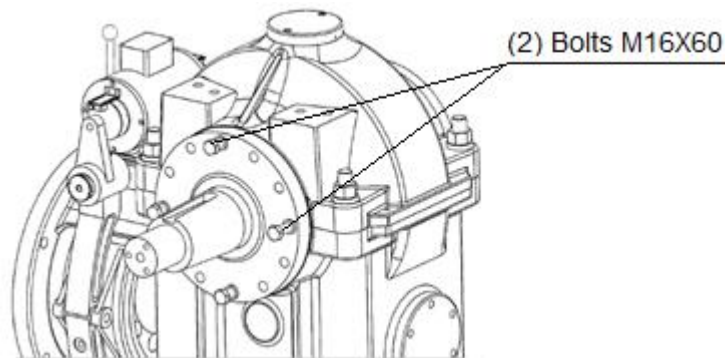

Figure 54 Reinstalling Spindle through Cover
14. Tighten the top (2) Bolts M16x60 to fasten the spindle Through-cover, See Figure 54 and tighten the top (2) Bolt M16x50 to fasten the Bearing Gland.